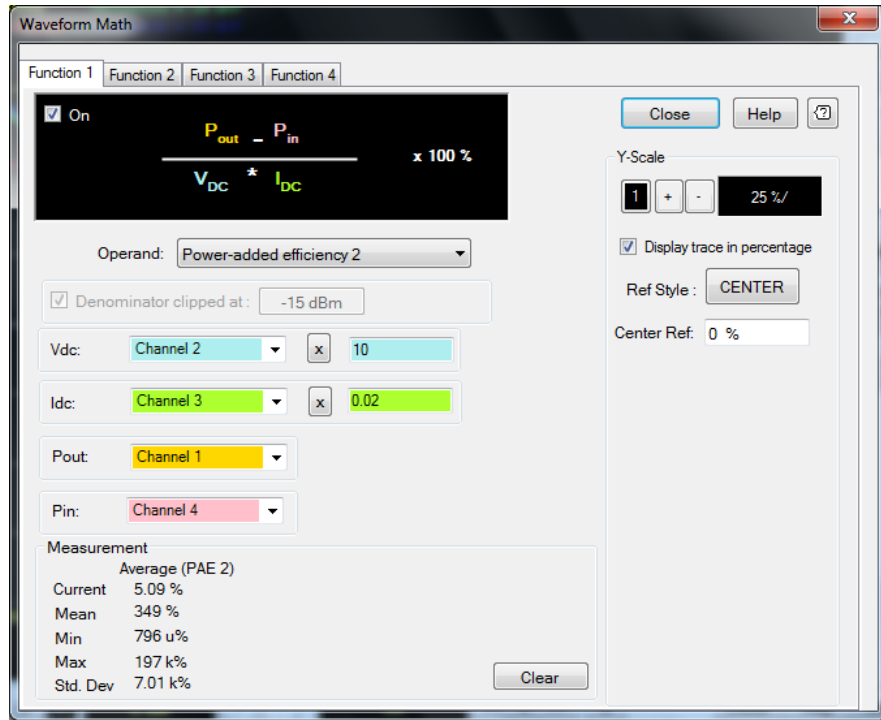

Figure 2-65 Power-added efficiency 2 with multiplication symbol (x)
- 1 Select **Power-added efficiency 2** at the Waveform Math dialog as shown in Figure 2-65.